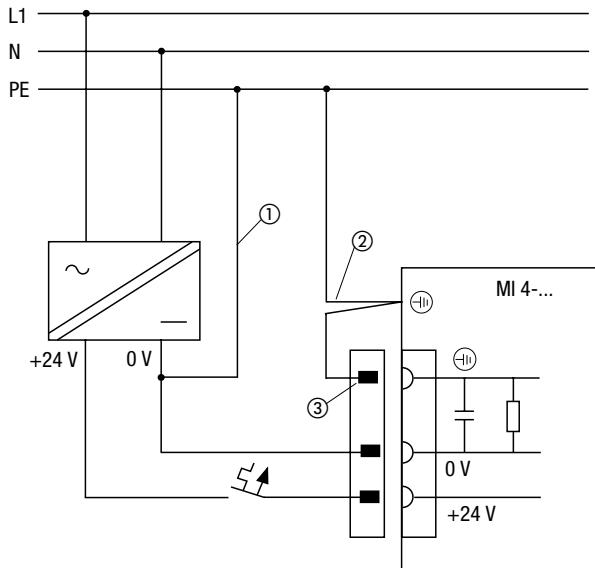

Figure 1: Connection diagram
① Earthing the 0 volt cable (see Fig. 1)